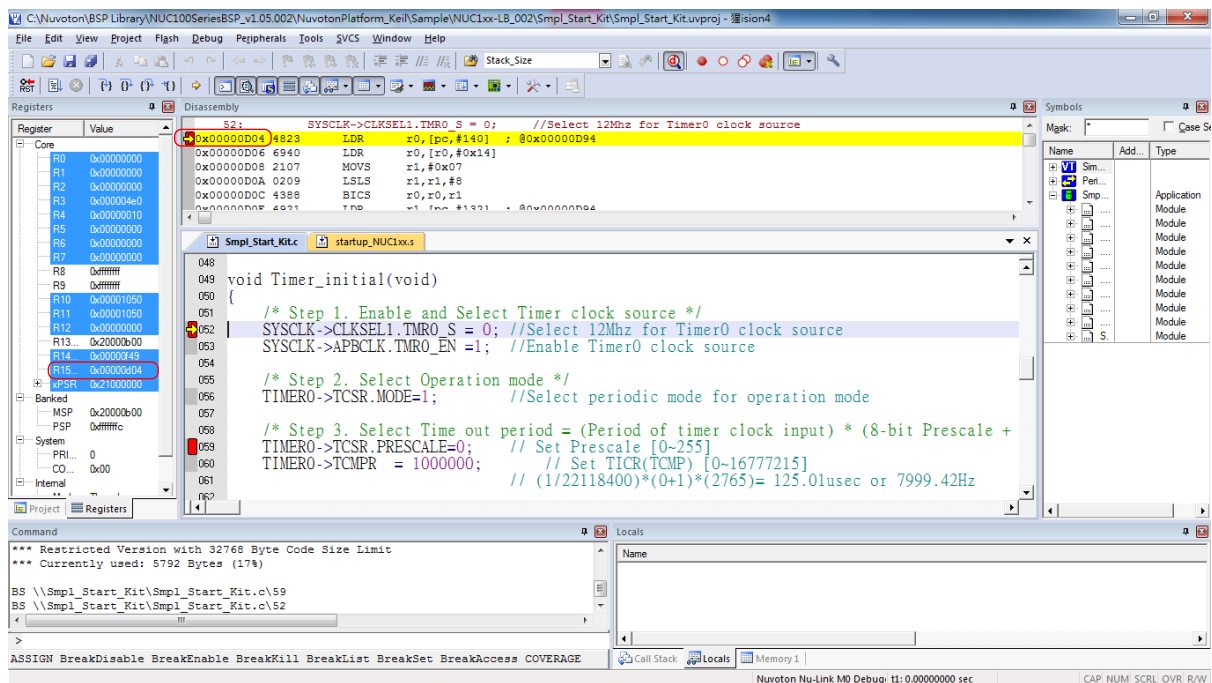

Figure 3-1 Setting Breakpoints in Keil MDK Debug Mode
In Debug mode, the user can add breakpoints in the code for debugging. During the real-time simulation of the Nu-Link Adapter, the chip simulation will be stopped at a specific breakpoint. Figure 3-1 shows the breakpoint settings in Keil MDK Debug mode. The red labels on lines 052 and 059 indicate the breakpoints inserted; the yellow arrow refers to the code to be executed next and shows the register value of Program Counter (PC) (i.e. “R15(PC)=0x0000D04” in the **Registers** pane in Figure 3-1).